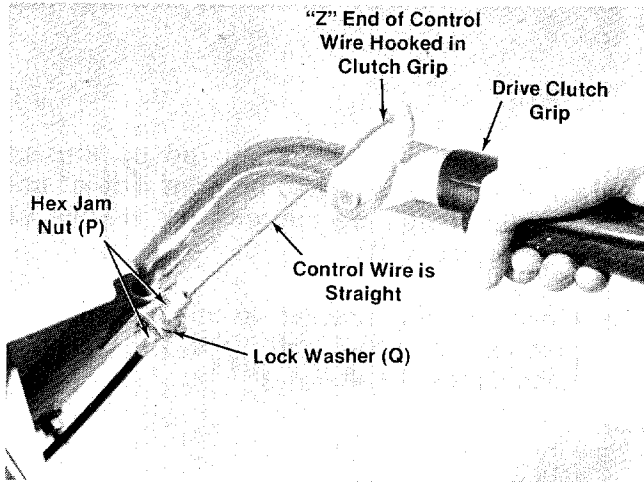

FIGURE 13.
16. Thread end of clutch control cable through cable support bracket on right handle. Place lock washer (Q) and hex jam nut (P) over clutch control cable. Start nut on cable housing by hand.
17. Hook "Z" end of control wire through hole in drive clutch grip assembly. See figure 13.
18. Hold clutch grip so that the grip is against the handle as shown in figure 13. Adjust the clutch control cable so that the slack is taken out of the control wire. Tighten the two hex nuts at the cable support bracket. Control wire should now be straight.